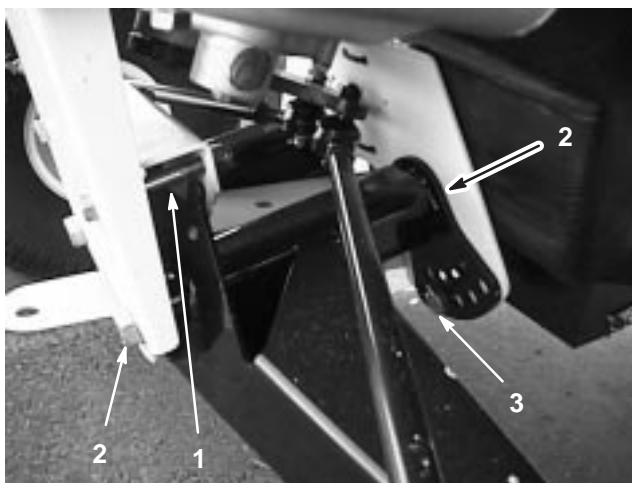

Figure 23
2. Remove the travel limiting bolt (Fig. 23).
3. Loosen the centering bolts in the front A-arm (Fig. 23).
4. Remove the ride height adjustment bolt (Fig. 23).
5. Rotate the front A-arm to the desired position (refer to the note below) and replace the ride height adjustment bolt (Fig. 23).
7. Replace the travel limiting bolt (Fig. 23).